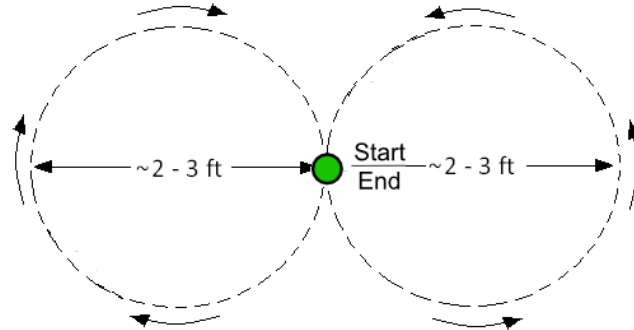

Figure 3: Figure Eight Robot Motion
- Write a *FigureEight* program to move the robot in a figure eight using two circles (see Figure 3).